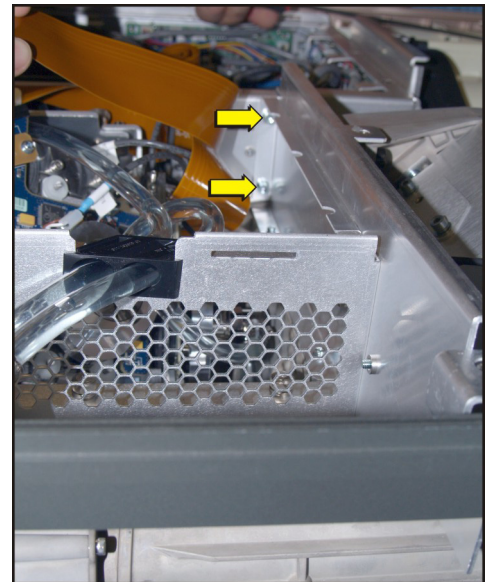

Figure 5-77 Remove Firewall
6. Remove the two screws securing the firewall, which separates the lamp housing and the light engine (Figure 5-77).